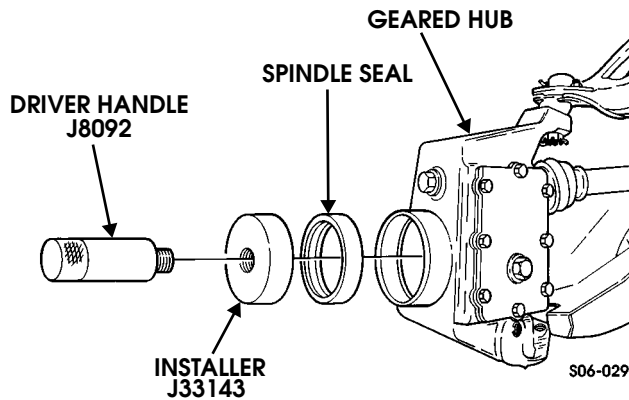

Figure 9-36: Spindle Seal Removal
7. Remove spindle seal from geared hub. Discard spindle seal (Figure 9-36).
1. Using driver handle J8092 and spindle seal installer J33143, install spindle seal in geared hub (Figure 9-36).